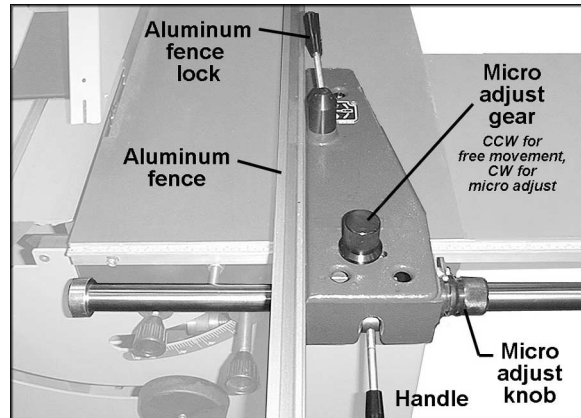

Figure 33
1. To move the rip fence, shown in Figure 33, turn the micro-adjust gear counterclockwise, and lift the handle. The fence should slide freely on the guide bar.